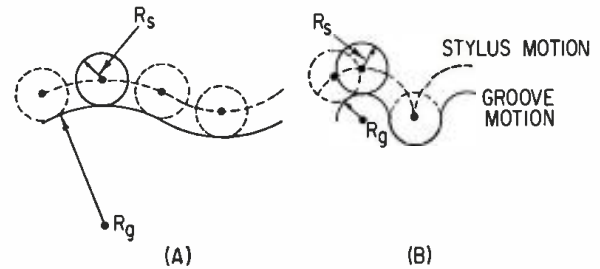

Figure 7. The effect of frequency or diameter on tracing distortion. (A) is a low frequency or outer diameter, (B) is a high frequency or inner diameter.
Modulating frequency: Tracing distortion is proportional to the frequency. As the frequency increases, the radius of modulation decreases and by comparison the playback tip radius appears larger—resulting in increased distortion. FIGURE 7(B) shows a modulated groove which is the same as that in FIGURE 7(A), but with a higher modulating frequency. The playback distortion from the groove in FIGURE 7(B) is greater than that from FIGURE 7(A). Tracing distortion is more severe at higher frequencies.
Recorded diameter: Tracing distortion increases as recorded diameter decreases. FIGURE 7(A) and 7(B) also represent two identical recorded grooves, but with FIGURE 7(A) at a larger diameter with little or no distortion, and FIGURE 7(B) at a smaller diameter with higher distortion. Tracing distortion is thus more pronounced at inner diameters.